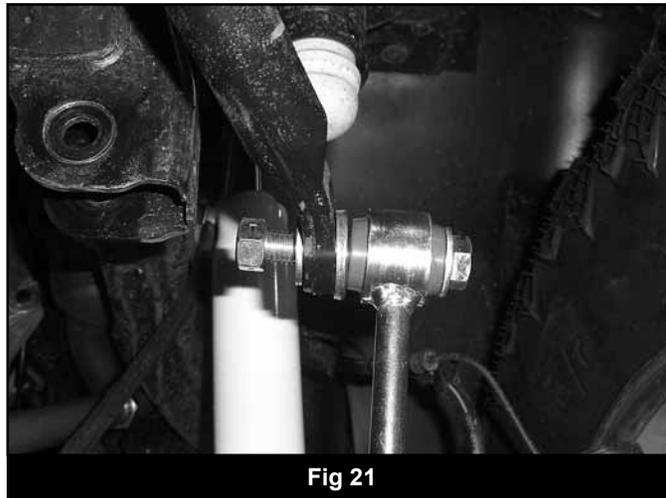

Fig 21
54. Lightly grease and install the provided sleeves (46) in the new sway bar links assemblies. Attach the new sway bar link assembly to the sway bar with a $\frac{1}{2}$ " x 3" bolt, nut and $\frac{1}{2}$ " SAE washers (BP 912). The link will mount to the outside of the sway bar with a 1-3/8" OD extra thick $\frac{1}{2}$ " washer positioned between the bushing and the sway bar (BP 912). Install the bolt from the outside in and torque to 65 ft-lbs (Fig 21)